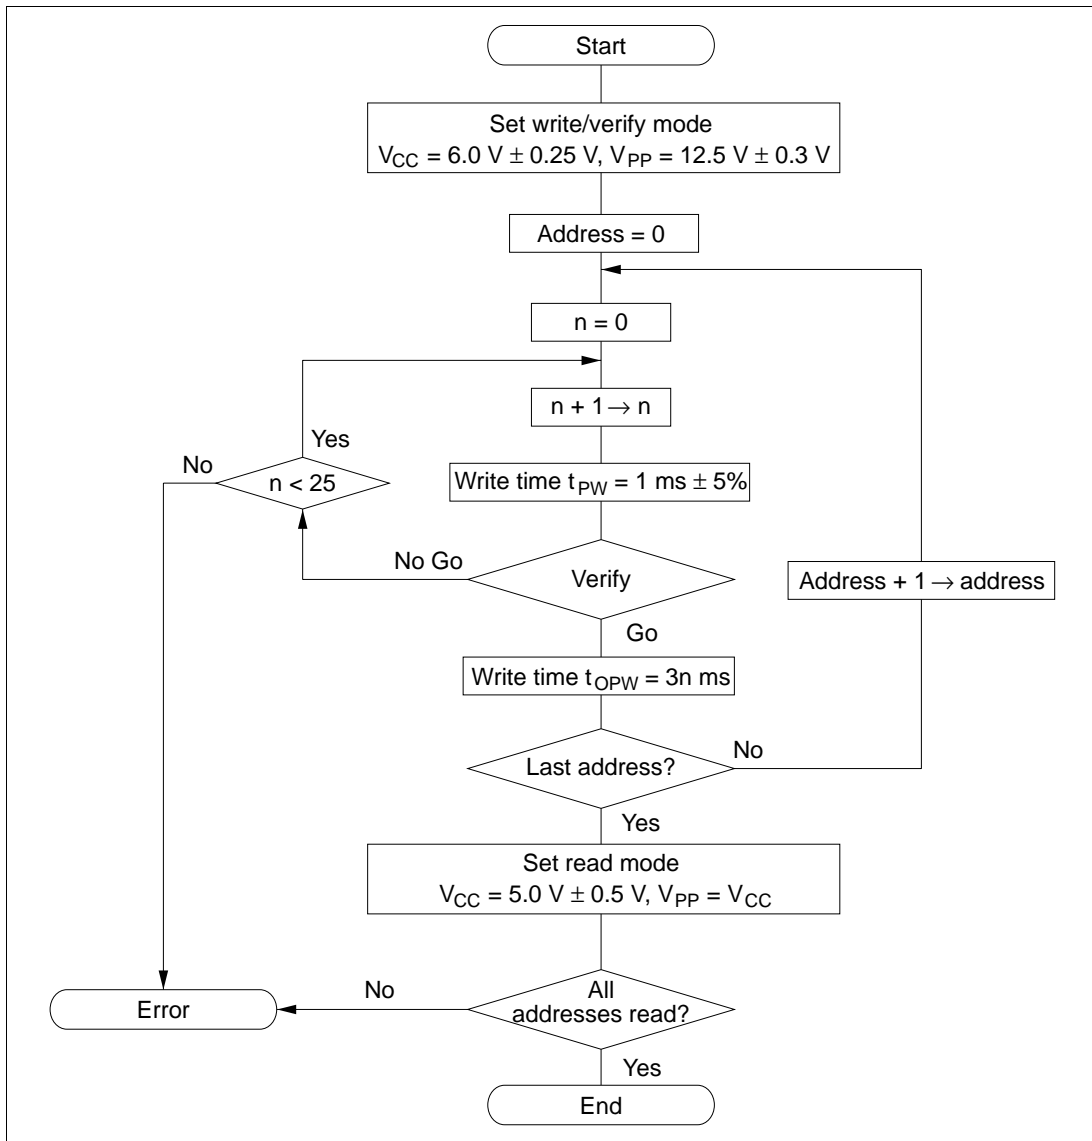
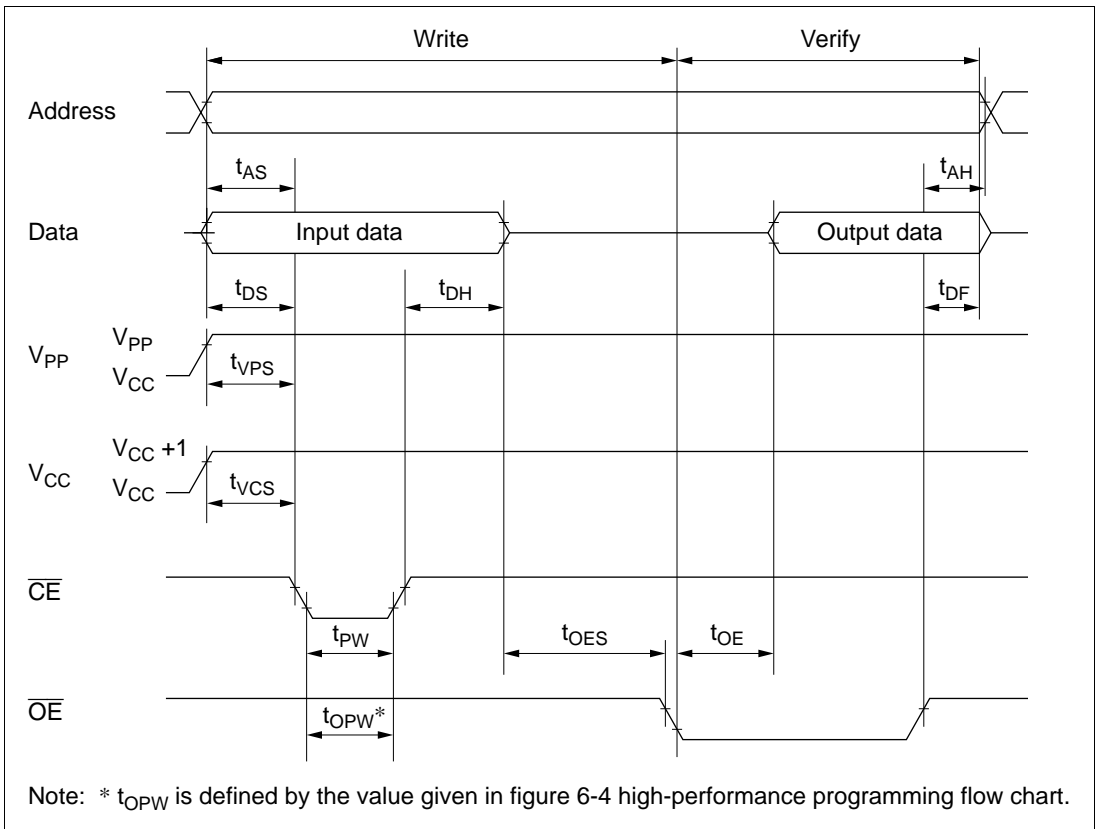

Figure 6.4 High-Performance Programming Flowchart
Figure 6.5 PROM Write/Verify Timing
The basic flow of this high-performance programming method is shown in figure 6.4. Table 6.4 and table 6.5 give the electrical characteristics in programming mode. Figure 6.5 shows a write/verify timing diagram.
3. t_{OPW} is defined by the value given in figure 6.4 high-performance programming flow chart.